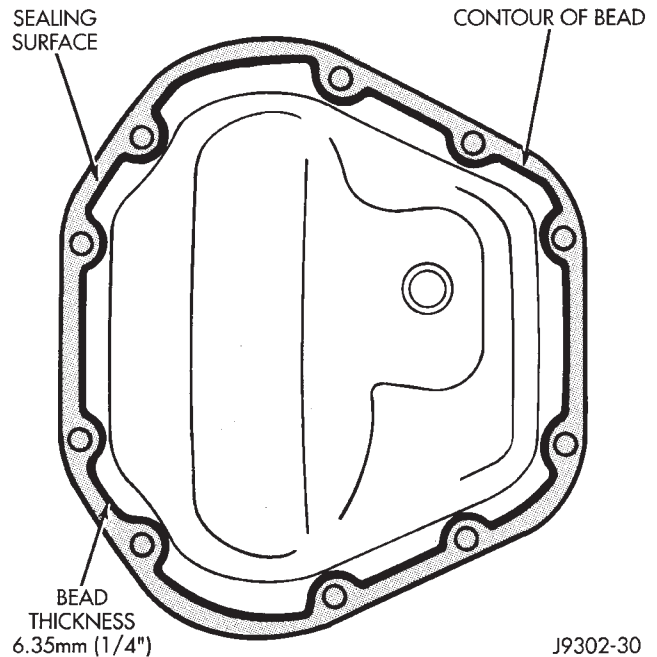

Fig. 59 Typical Housing Cover With Sealant
(1) Scrape the residual sealant from the housing and cover mating surfaces. Clean the mating surfaces with mineral spirits. Apply a bead of Mopar® Silicone Rubber Sealant, or equivalent, on the housing cover (Fig. 59).